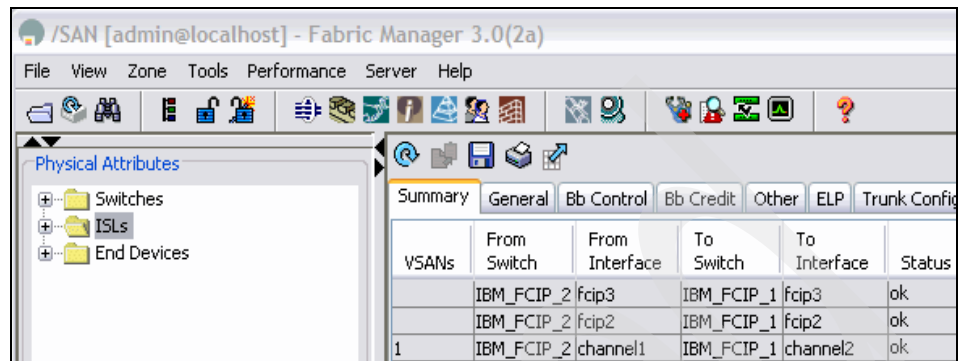

Figure 12-37 FM path to ISL status display
- To view the operational status for our configured ISLs (Figure 12-37), select **ISLs** from the Physical Attributes pane.